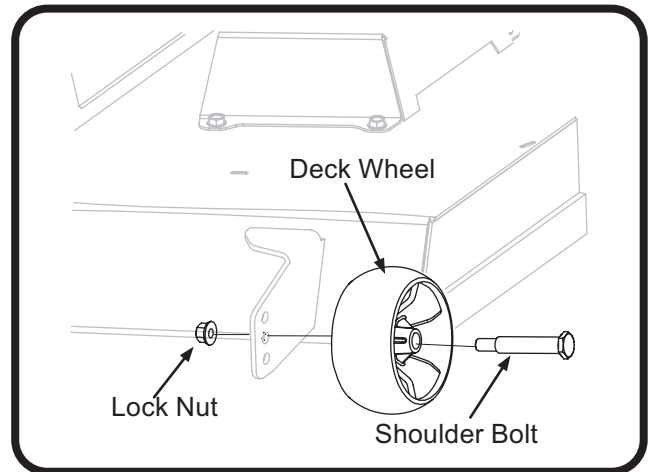

Figure 8.27
4. Reposition the ball wheel to align with one of the index holes that places the wheel 1/4” to 1/2” above the ground. See Figure 8.27.